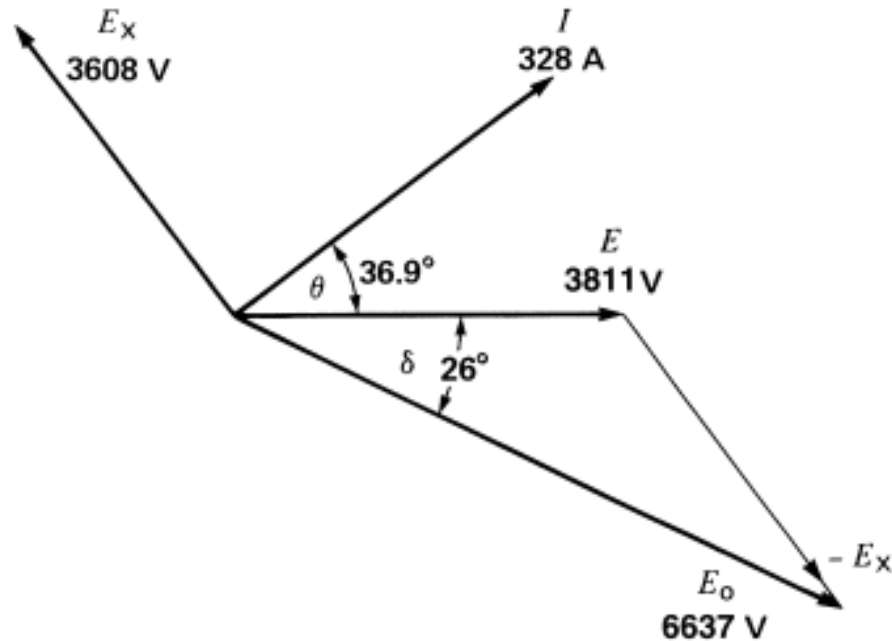

Figure 21
- d. Consequently, E_o lags E , and the complete phasor diagram is shown in Fig. 21.